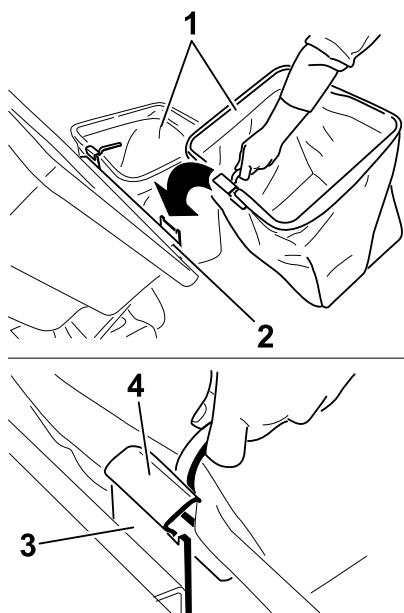

Figure 30
5. Install the bags by sliding the bag frame hooks onto the retaining brackets (Figure 30).